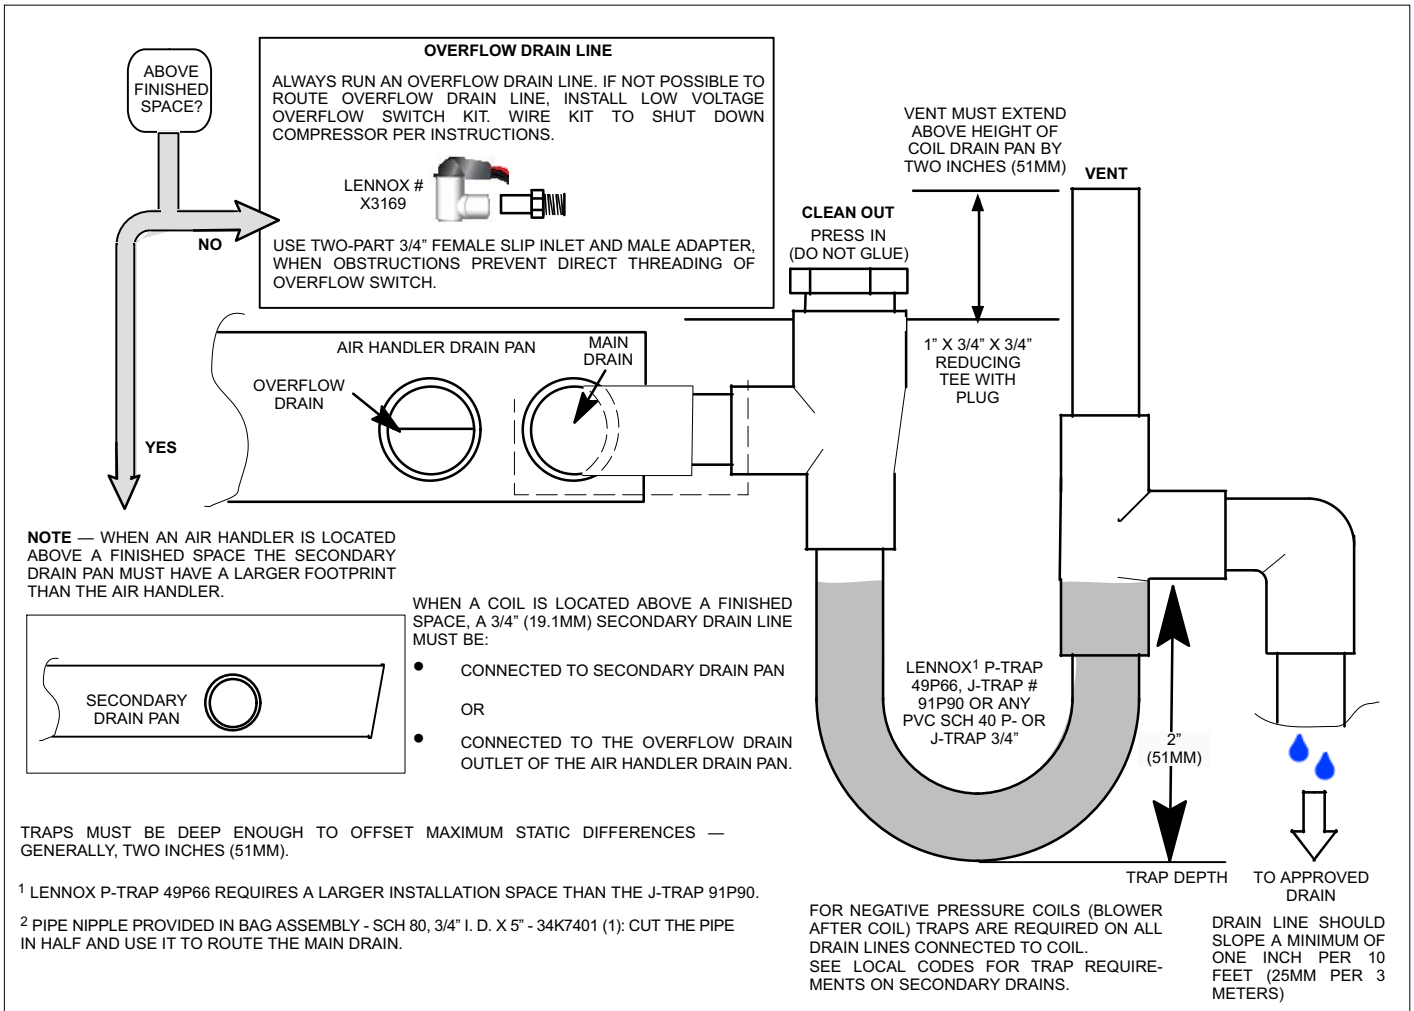

Figure 9. Typical Main and Overflow Drain
7. Install a 2" trap in the main (primary) drain lines as close to the unit as practical (see figure 9). Make sure the top of the trap is below the connection to the drain pan to allow complete drainage of the pan.
**NOTE** - Horizontal runs must have an anti-siphon air vent (standpipe) installed ahead of the horizontal run. See figure 9. An extremely long horizontal run may require an oversized drain line to eliminate air traps.